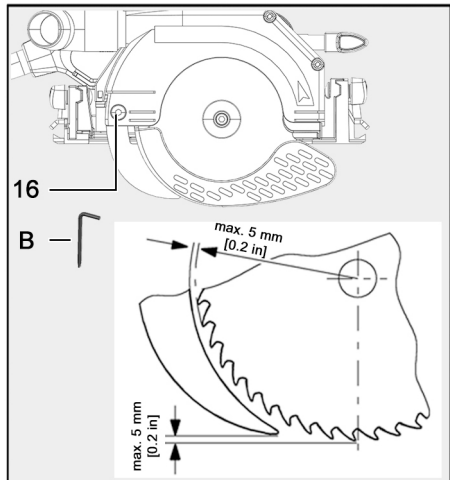

Fig. 7: Distance riving knife to saw blade
2. Using the Allen key (B) provided, turn the screw (16) **counterclockwise** to adjust it.
- Do not exceed the maximum distance to the saw blade (see Fig.. 7).
4. Using the Allen key (B), turn the flange screw (16) **clockwise** to tighten it.